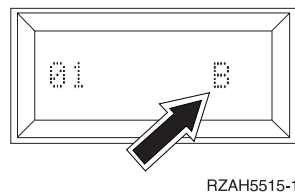

Figure 26. Normal Mode
- c. Ensure that the system is in normal mode, Figure 26.